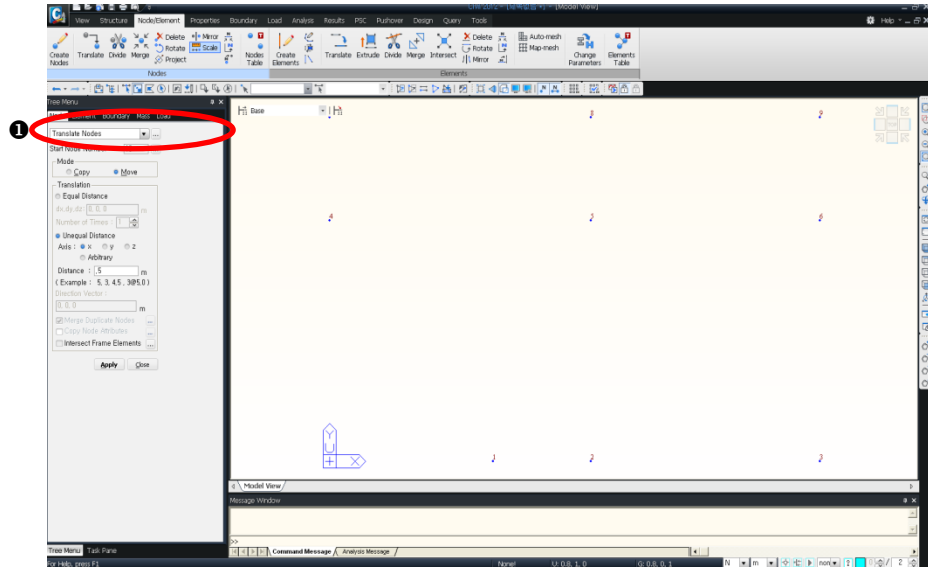

Figure 3.2 Generation of Nodes for Element Positions
6. Select **Translate Nodes** in the functions selection field (Fig.3.2–①).